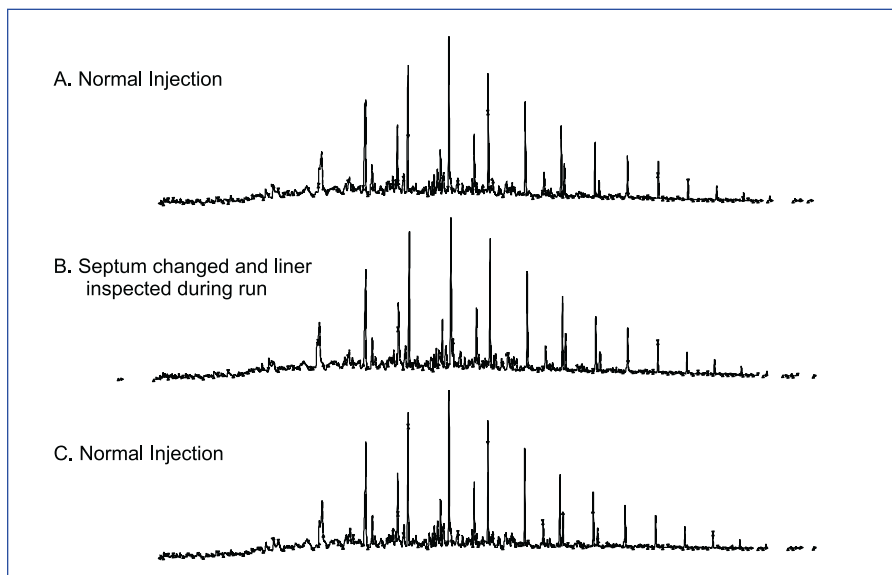

Figure 1. Three successive injections of diesel oil run in Isolation mode. Septum changed and injector liner inspected during run B.
Isolation mode allows the injector to be disassembled for routine maintenance such as changing the liner or septum. This can be achieved *even while chromatography is in progress* (Figure 1). The flow of carrier gas is not disturbed and air does not enter the system during this procedure. Isolation mode is particularly suited to applications using electron capture (ECD) or mass spectrometric (MS) detectors which would otherwise require extended cool-down periods and reequilibration times (Table I).